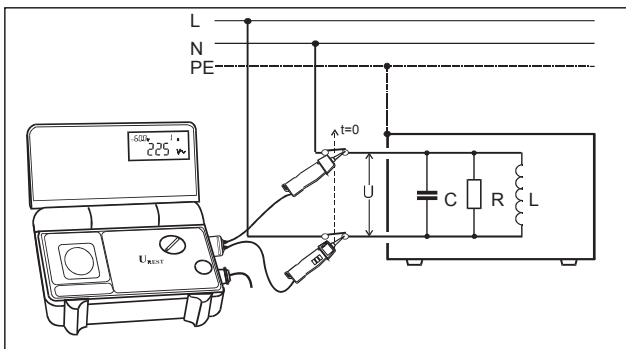

Fig.6.18
- Connect COMMANDER 2 test probes (use measurement accessories, if required) to UUT, as shown in Fig. 6.18: